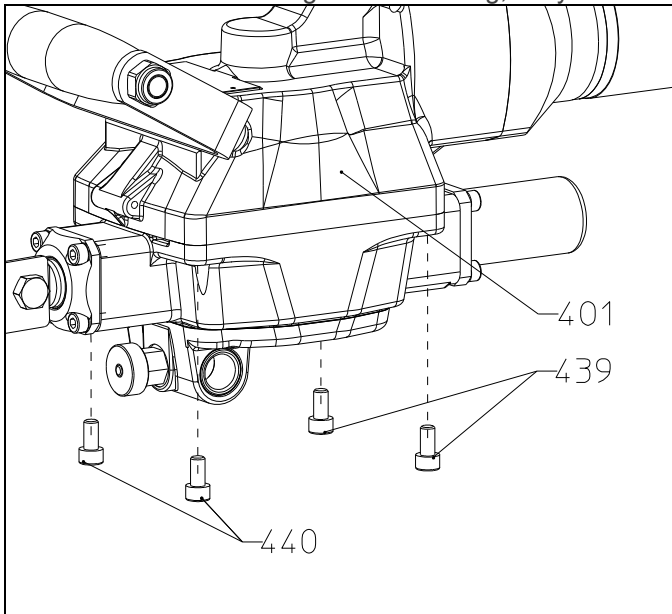
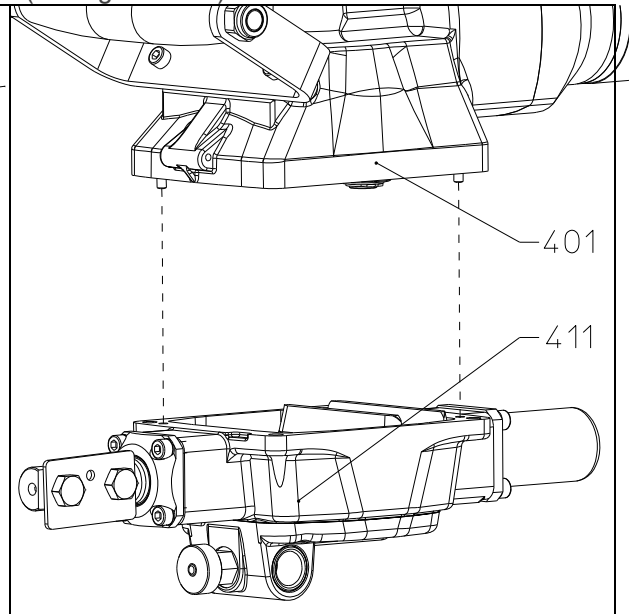

Fig. 1
Fig. 2
After having disassembled the gear (see page 2 and 3, fig. 1 to 5), continue disassembling the machine in the main components valve with hydraulic motor and gearbox.
Screw each of the 2x socket head screw item 439 and 440 out of the gear housing, assy. item 401 (see fig. 1). Untighten the bearing housing item 411 together with the items 406-410, 412, 413, 415, 416, 433, 434, 436, 439, 441-443, 451, 456, 458, 460, 462 and 464 from the gearbox housing, assy. item 401 (see fig. 2).